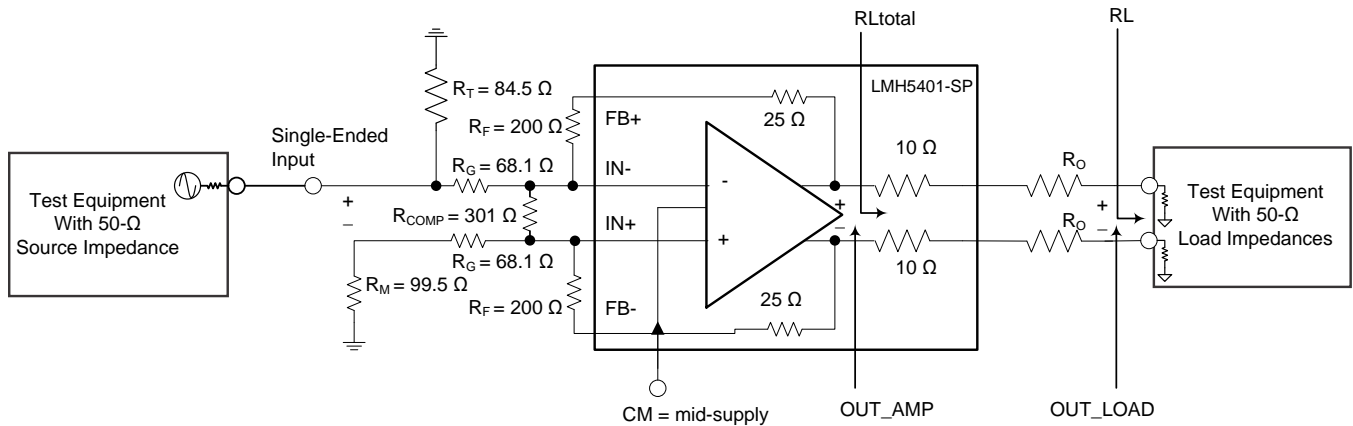
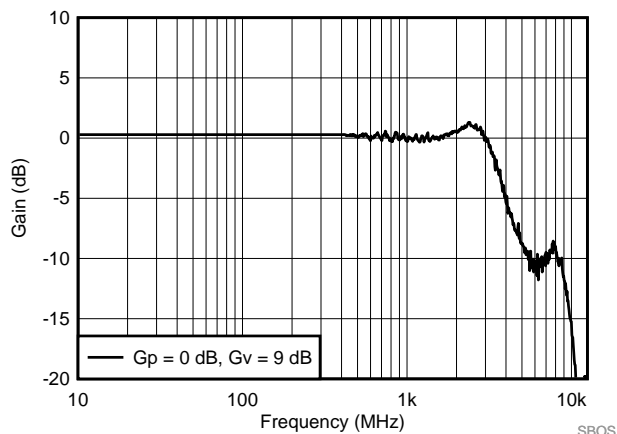

图 61. Noise Gain Compensation for Stability at  $G_p = 0$  dB
图 62. SE-DE Small Signal Frequency Response for Low Gain
Two types of gain are associated with amplifiers: noise gain (NG) and signal gain. Noise gain determines the stability of an amplifier. The noise gain is the inverse of the voltage divider from the outputs back to the differential inputs. This gain is calculated by  $NG = (R_F / R_{IN}) + 1$ . For the LMH5401-SP,  $NG > 4$  creates a stable circuit independent on how the signal gain is set. In 图 61, for optimal performance choose  $R_F$  within the values noted in this document (see the Parameter Measurement Information section for further information). Using too large of a resistance in the feedback path adds noise and can possibly have a negative affect on bandwidth, depending on the parasitic capacitance of the board; too low of a resistance can load the output, thus affecting distortion performance. When low signal gain stability is needed, the noise gain can be altered with the addition of a resistor,  $R_{comp}$ . By manipulating the noise gain with this addition, the amplifier can be stabilized at lower signal gains. In 图 61,  $R_S$  and  $R_{comp}$  in parallel combination also affects the noise gain of the amplifier.  $R_G$  and  $R_F$  are the main gain-setting resistors and the addition of  $R_{comp}$  adjusts the noise gain for stability. Much of this stability can be simulated using the LMH5401-SP TINA model, depending on the amplifier configuration. The example in 图 61 uses the LMH5401-SP, a signal gain of 2.8 V/V, and a noise gain of 4.75 V/V resulting in the frequency response shown in 图 62.